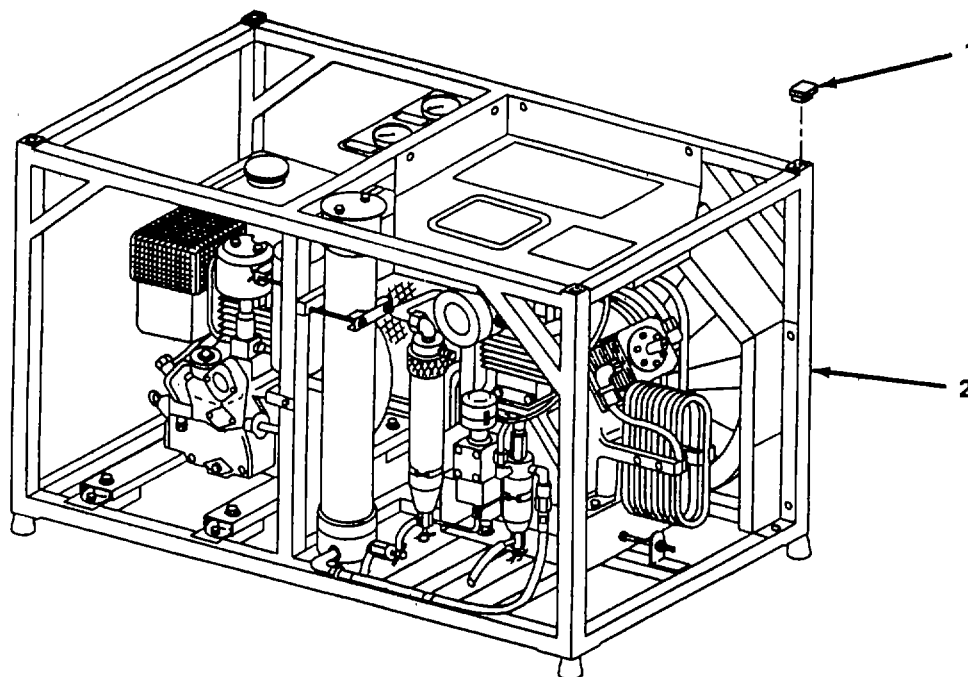

Figure 4-35. Plug, Replace
(2) *Replace plug.* (figure 4-35)